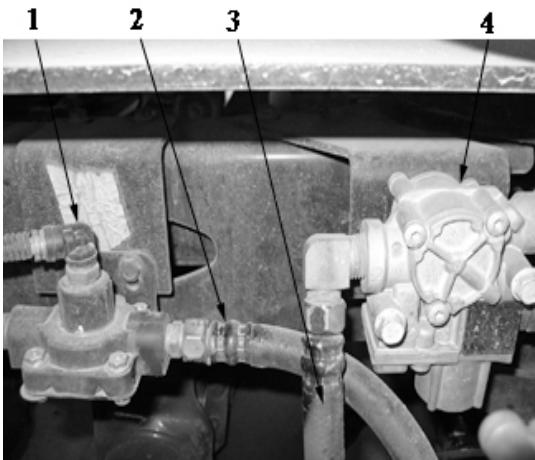

Figure 6. Brake System Valves
12. Disconnect spring brake chamber hose from quick release valve (Figure 6, Items 1 and 2).
13. Disconnect spring brake chamber hose from ABS modulator valve (Figure 6, Items 3 and 4).